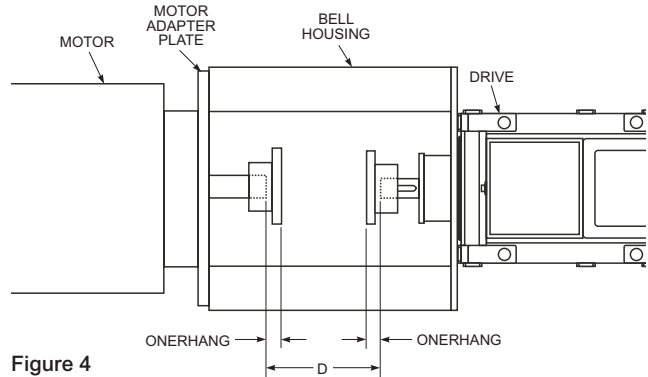

Figure 4
Mount the motor to the motor adapter plate on the bell housing before installing the coupling. Once the motor is secured, measure the distance (D) between the end of the motor shaft and the high-speed shaft of the drive. See Figure 4. Subtract the distance (D) from the length of the spacer coupling (BE). Then divide this value in half to find the overhang of each hub [Overhang + (BE - D)/2]. The overhang will be negative. This is the amount each hub overhangs the shaft. Once the overhang is determined, install the hubs according to the instructions provided with the coupling. Install the spacer sections and verify the gap is correct. If not, readjust the hub on the motor shaft. If the coupling is furnished with an interference fit, readjustment will not be possible. Take extra care in making measurements. After the proper gap is set, finish installing the coupling per the instructions.